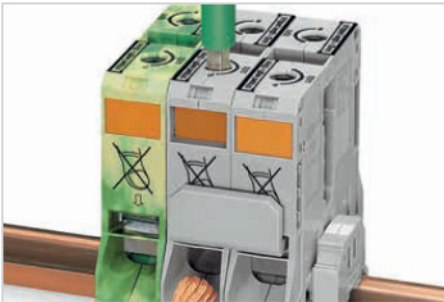

Fig.13: How to open and close the POWER CAGE CLAMP series 285 (quick Tip)
- To connect the wires to the terminals follow the instructions provided from WAGO or as shown in Fig.13, page 8
- To connect the wires to the terminals, follow the instructions provided from WAGO or as shown in Fig.13